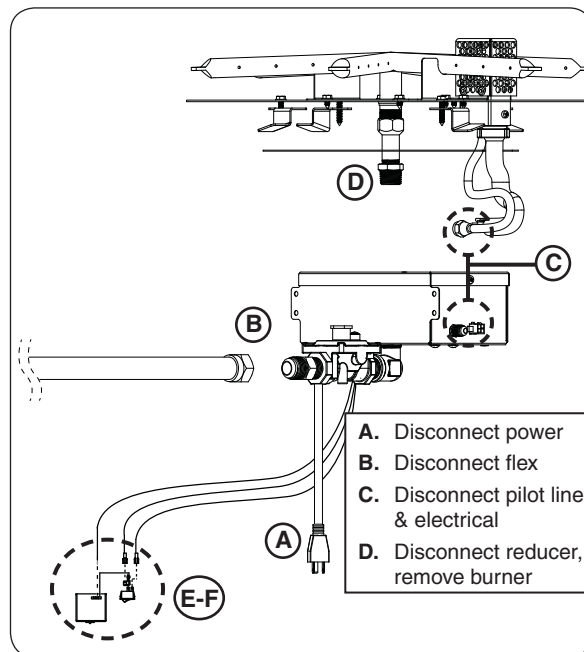

Fig. 44-2 Gain access to valve box
2. Remove the burner and gain access to the valve box as shown in Fig. 44-2, A-D.